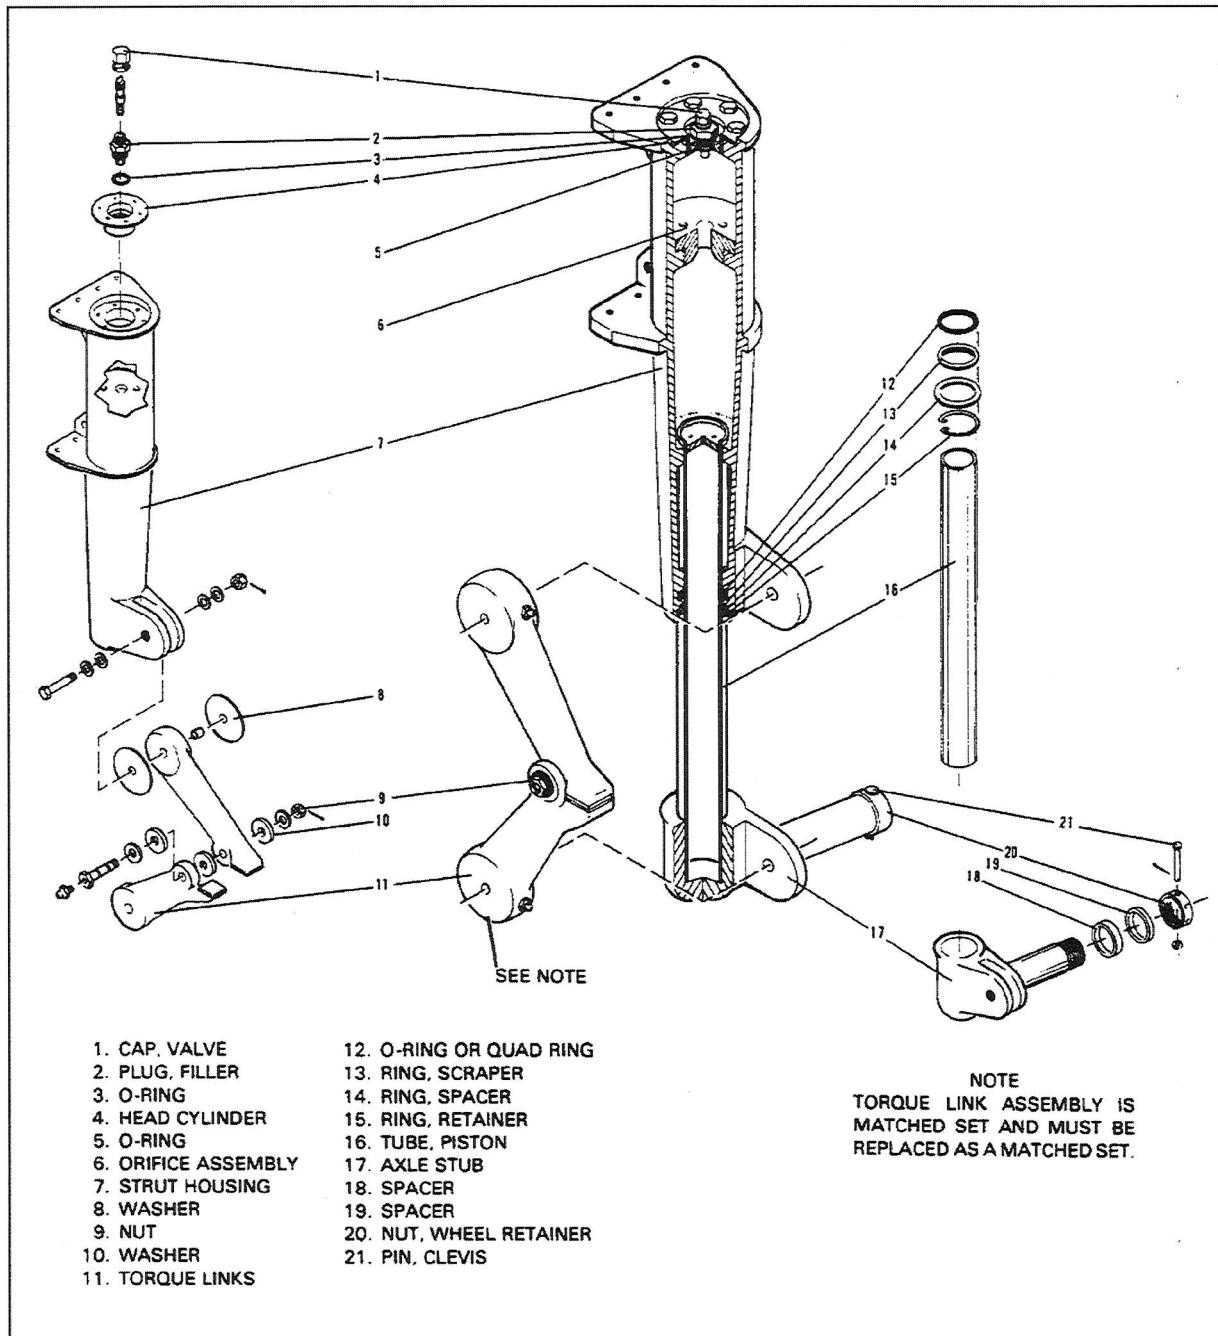

Figure 32-1. Main Gear Oleo Strut Assembly
**MAIN GEAR****A. DISASSEMBLY OF MAIN GEAR OLEO** (Refer to Figure 32-1.)**—NOTE—**
**C. ASSEMBLY OF MAIN GEAR OLEO** (Refer to Figure 32-1.)